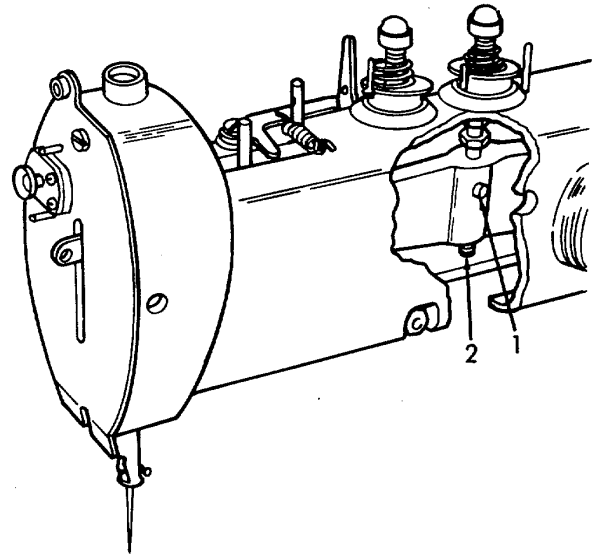

Figure 6-170. Top Intermittent Tension Timing.
d. *Timing of Top Intermittent Tension (Refer to Figure 6-170).*
- (1) Rotate the machine pulley counter-clockwise until the needle bar is $\frac{5}{32}$ inch from the top of its stroke. The thread should be locked.
- (2) To adjust, loosen the setscrew (1) turn the adjusting screw (2) clockwise to retard the locking or counter-clockwise to advance the timing.
- (3) Tighten the setscrew (1) and recheck per step (1) above.